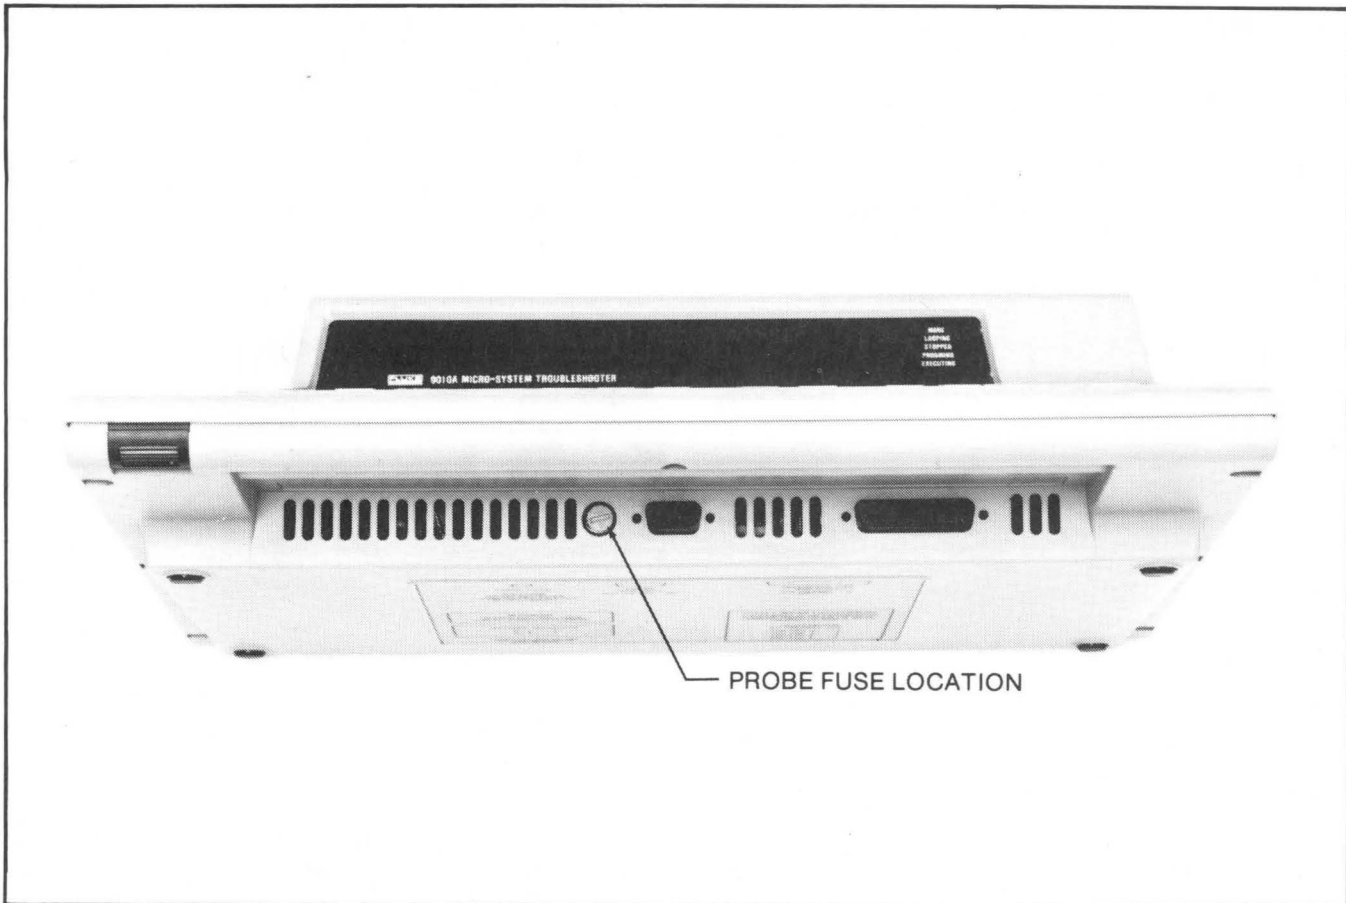

Figure 4-3. Probe Fuse Location
1. Tilt up the front of the instrument and locate the probe fuse cap shown in Figure 4-3.